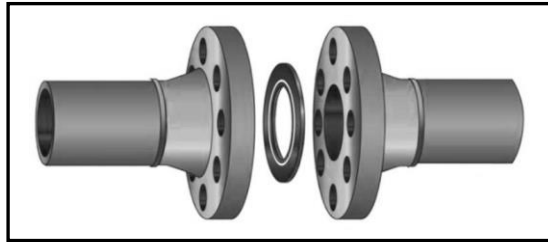

FIGURE 1.4
- 1.4 FIGURE 1.4 below shows two pipes with flanges. Recommend a suitable fastener to join the two flanges.